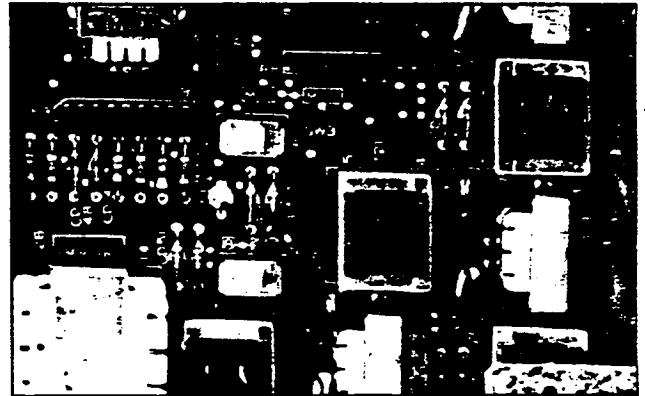

FIGURE 30—MMAU SW3 SWITCH
- a) When the AMOU PCB is used, refer to Paragraph 07.10 for installation instructions. Verify that the **SW3** switch on the MMAU is set to MOH (Figure 30). Adjust the volume with the volume control labeled **MOH** on the MKSU right side panel.
- b) When a customer-provided source is used, connect the MOH source to the MOH terminals on the MKSU right side panel. The input impedance is 600Ω. Verify that the **SW3** switch on the MMAU is set to MOH (Figure 30). Adjust the volume with the volume control labeled **MOH** on the MKSU right side panel.